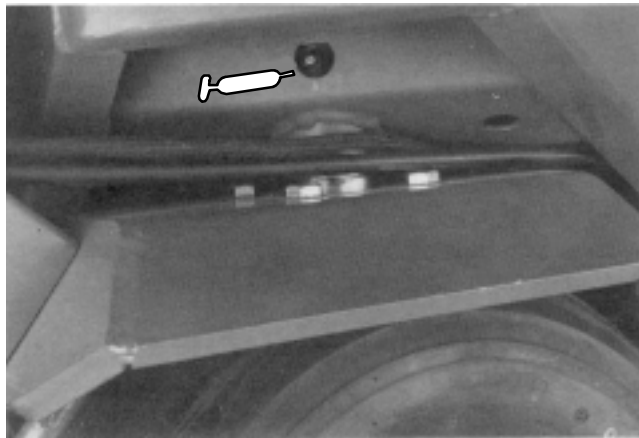
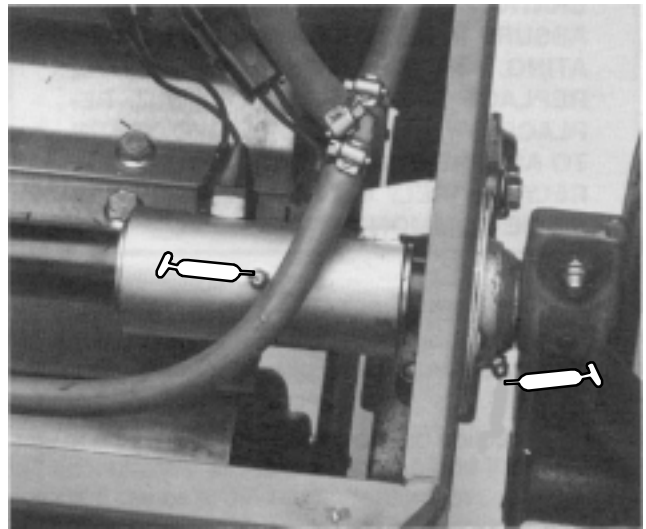
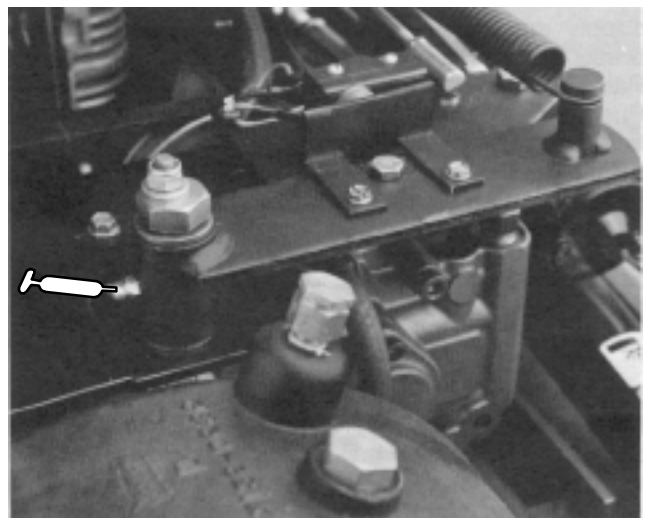

Figure 15
Figure 16
Figure 17
(Fig. 15–17)
The bearings and bushings that must be lubricated are: steering pivot shaft (Fig. 15), limit switch housing (Fig. 16) (2) on lift arm shaft (Fig. 16) and neutral pivot shaft (Fig. 17).